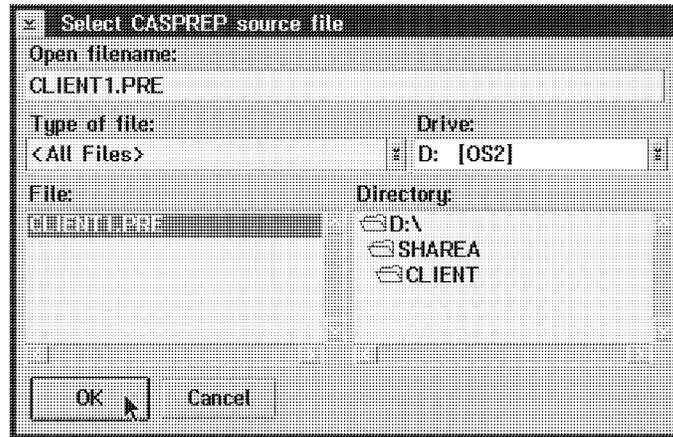

Figure 120. Select CASPREP Source File Window
- d. Now select **Convert casprep file to Command file**. From the Select CASPREP source file window (which is shown in Figure 120 on page 171), select the **CLIENT1.PRE** file you want to convert into a LAN CID Utility client command file.